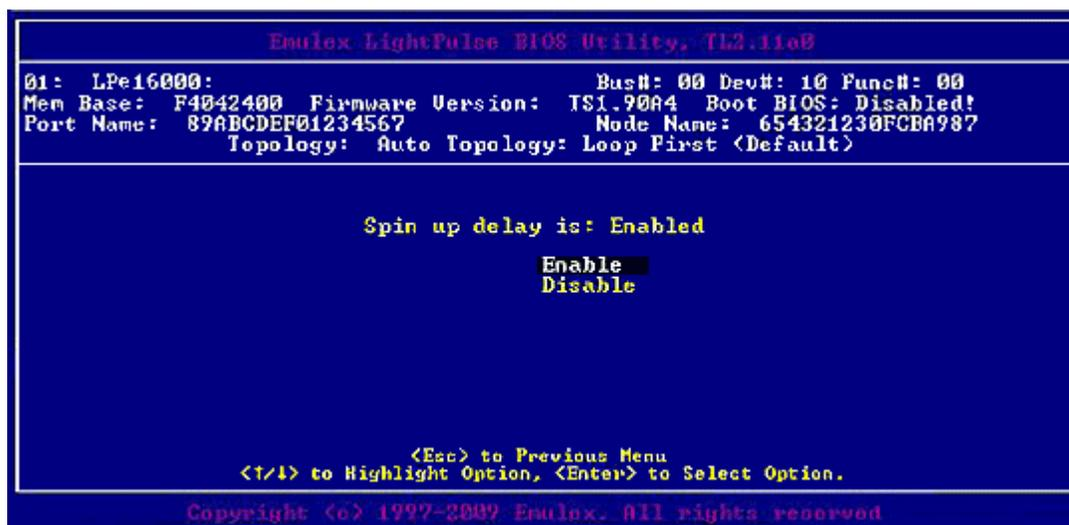

Figure 4-13 Enable or Disable Spinup Delay Screen
2. Select **Enable or Disable Spinup Delay** and press **<Enter>**. The Enable or Disable Spinup Delay screen (Figure 4-13 on page 36) is displayed.